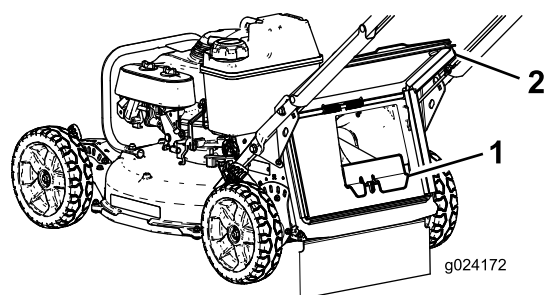

Figure 20
the rear-discharge chute until the latch locks into place (Figure 20).
1. Rear door 3. Notch (2)
2. Bag-rod end (2)
3. Remove the rear-discharge plug by pushing in the latch with your thumb and pulling the plug out from the machine (Figure 20).